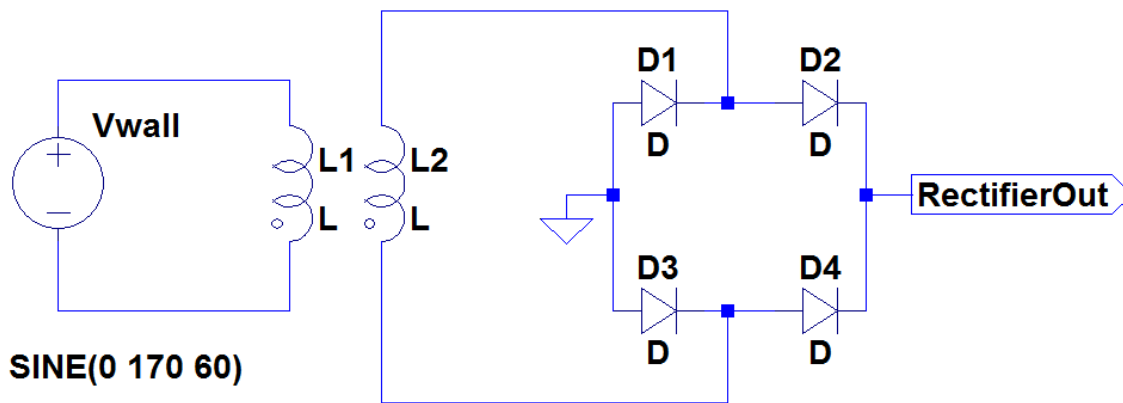
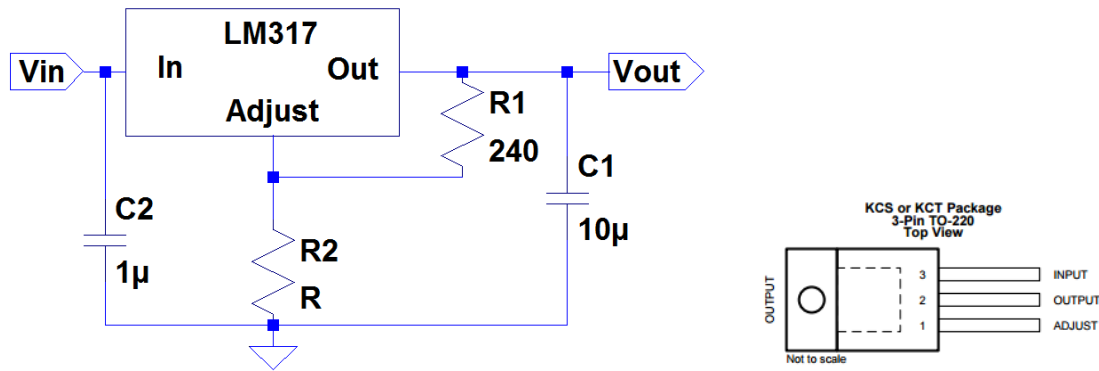

Figure 6.3: The full bridge rectifier, you will place the voltage regulator circuit between the bridge and the $1k\Omega$ load.
Figure 6.4: A typical LM317 Circuit. The caps are to smooth out fluctuations at the input and the output. Pinout from Texas Instruments data sheet.
1. Stage one is a repeat of last weeks lab, a transformer feeding power from the electrical grid to a full bridge rectifier (See Fig. 6.3)
- b. A LM317 circuit (See Fig. 6.4)
- Construct the rectifier portion of circuit in Fig. 6.3 on the left side of your bread board.
- Construct the LM317 regulator circuit (all of Fig. 6.4) in middle of your breadboard. **For R_2 use either**
- Use Rectifier Out and ground from the circuit on the left side of your breadboard (See Fig. 6.3) to power the circuit in the middle of your bread board (Vin and ground of Fig. 6.4)